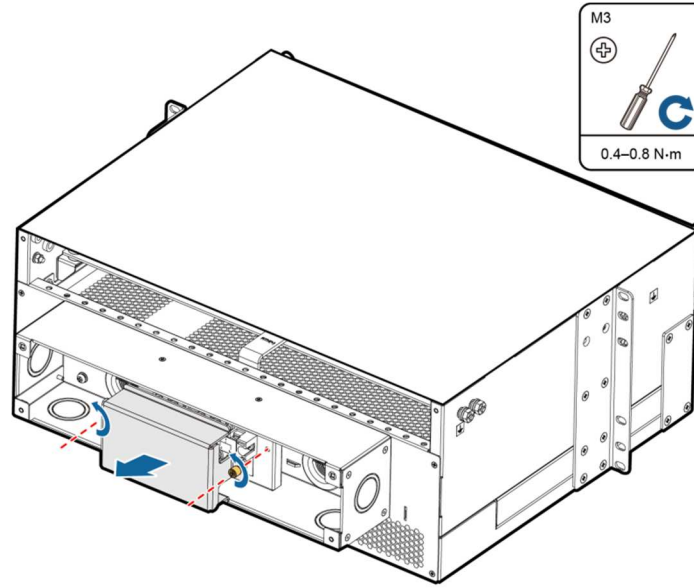

Figure 26 – Removing the AC Protective Cover
Step 2 Remove the AC input protective cover, as shown in Figure 26.